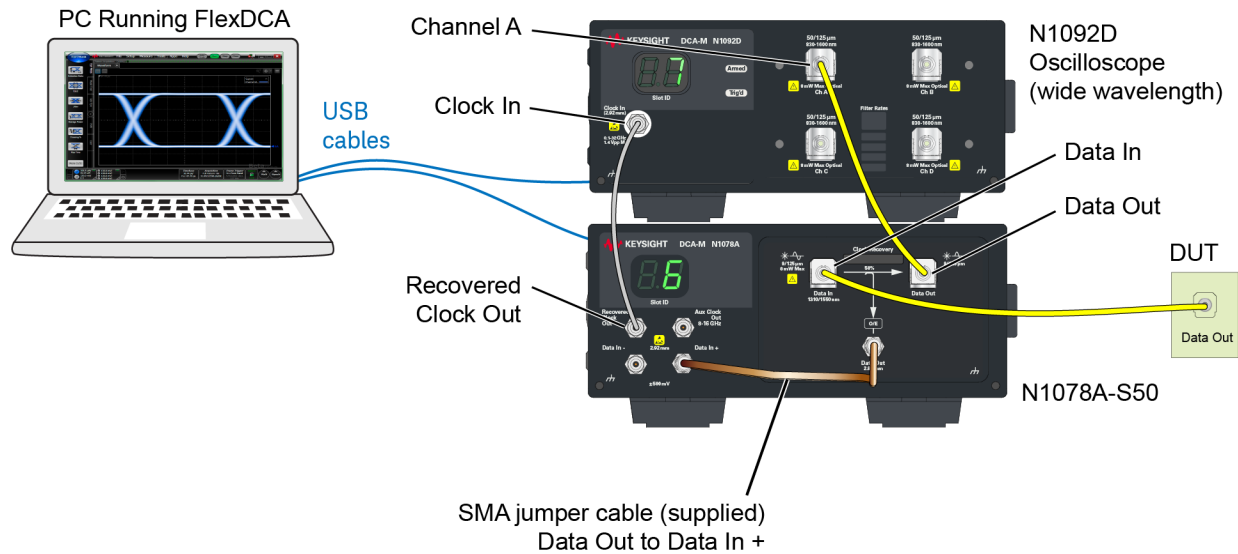

Figure 58. Typical Connection Setup
3. Connect the N1078A as shown in *Figure 58 on page 110*. If connecting to an N1000A (or 86100D), be sure to connect the USB cable to the DCA-X's rear-panel USB port. Notice that the N1078A has single-mode optical connectors: